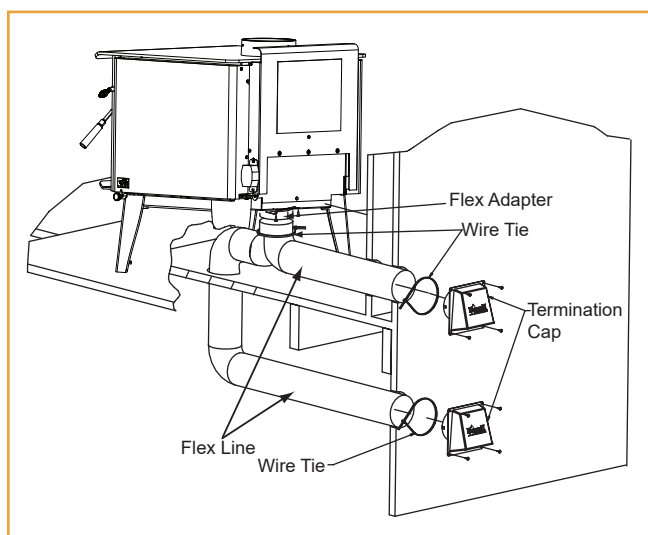

Figure 22.1 - Floor & Rear Installation
2. Using a #2 Phillips screw driver attach the flex adapter to the appliance using 4 screws (**Figure 22.1**).